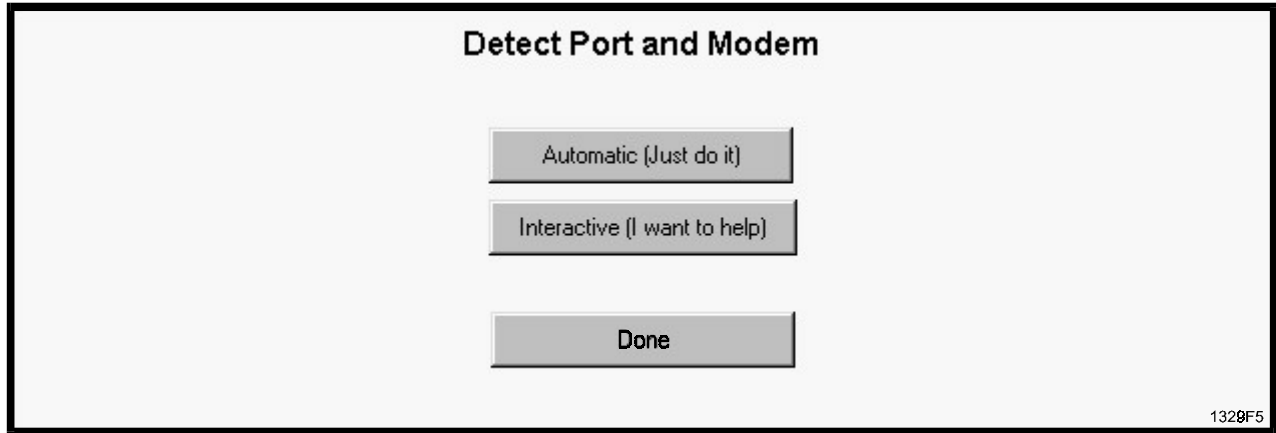

**Figure 5: Detect Port and Modem Screen (X1/X3)**
The first time SGoWin is accessed, the Detect Port and Modem screen (Figure 5) is displayed automatically over the Button menu.
1. **Modem And Port** - Click on "MODEM AND PORT" in the Communications menu. The Detect Port and Modem Screen displays (Figure 5).